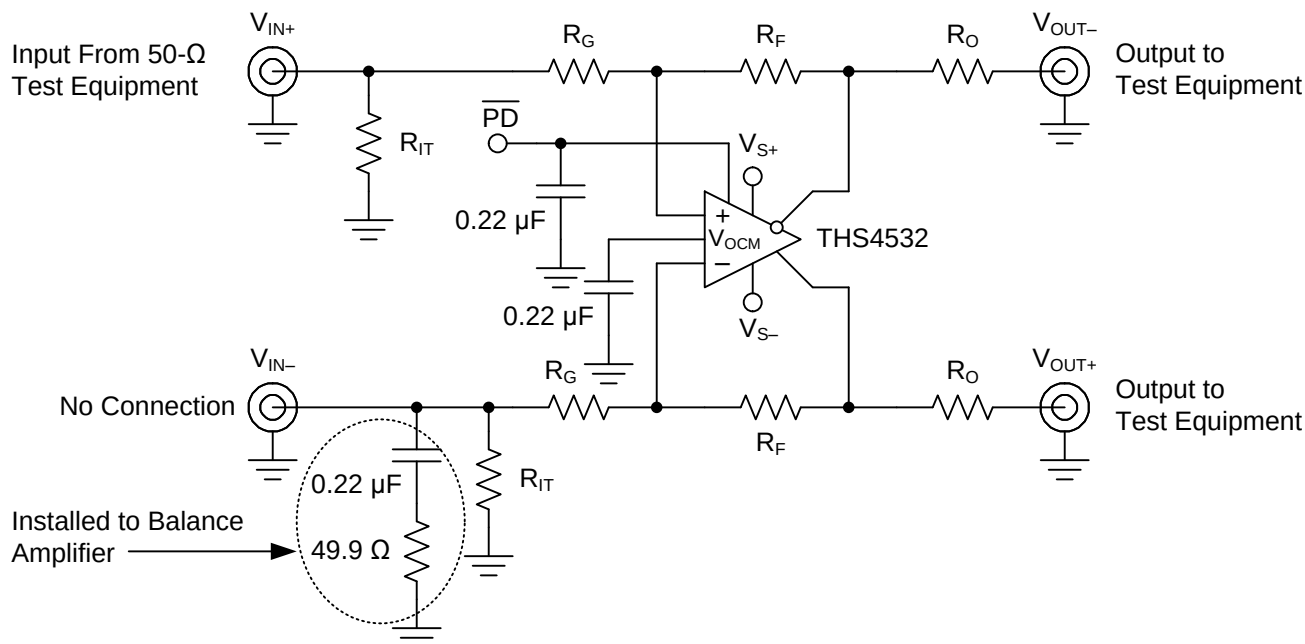
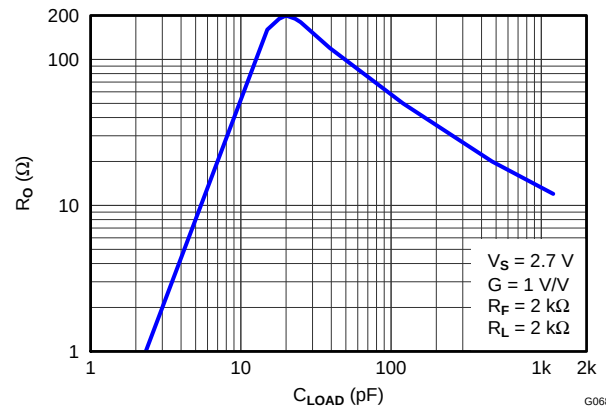
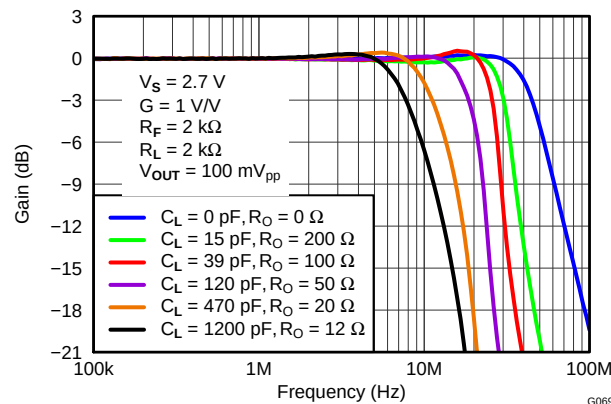

Figure 71. Slew Rate, Transient Response, Settling Time, Z_O , Overdrive Recovery, V_{OUT} Swing, and Turn-on/off Test Circuit
Figure 82. Recommended Series Output Resistor vs Capacitive Load for Flat Frequency Response
Figure 83. Frequency Response for Various R_O and C_L Values
The circuit shown in Figure 71 is used to measure slew rate, transient response, settling time, overdrive recovery, and output voltage swing. Turn on and turn off times are measured with 50 Ω input termination on the $\overline{PD}$ input, by replacing the 0.22 μ F capacitor with 49.9 Ω resistor.
Inserting R_O will compensate the phase shift and restore the phase margin, but it will also limit bandwidth. The circuit shown in Figure 71 is used to test for best R_O versus capacitive loads, C_L , with a capacitance placed differential across the V_{OUT+} and V_{OUT-} along with 2k Ω load resistor, and the output is measure with a differential probe. Figure 82 shows the optimum values of R_O versus capacitive loads, C_L , and Figure 83 shows the frequency response with various values. Performance is the same on both 2.7V and 5V supply.
4. A series output resistor is recommended to be placed as near to the output pin as possible. See Figure 82 "Recommended Series Output Resistor vs. Capacitive Load" for recommended values given expected capacitive load of design.